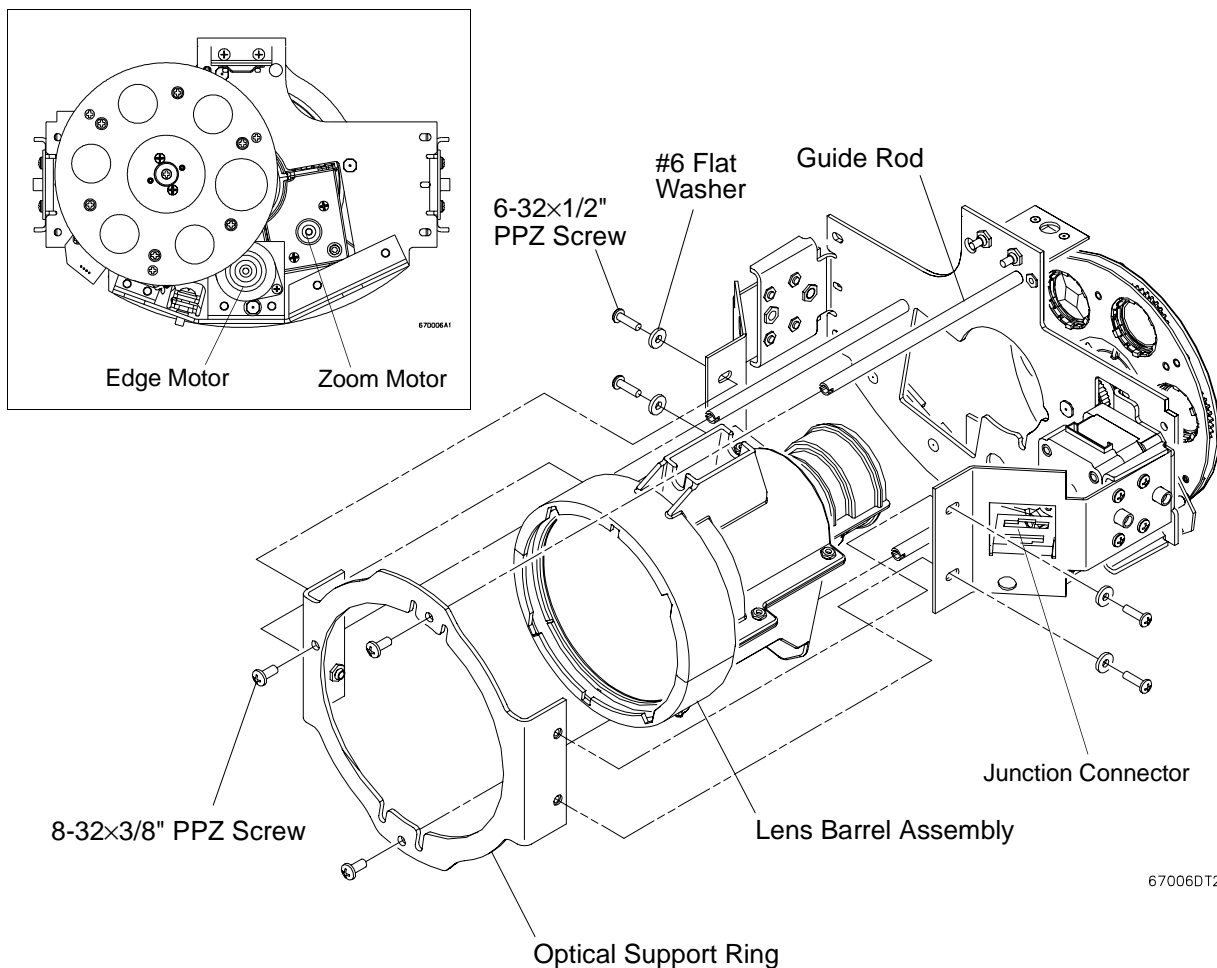

**Figure 4: Converting Fan Cover Assembly**
- Step 1. At fan cover assembly, remove baffle cover by removing two (remaining) 6-32x5/16" PPZ screws and #6 internal tooth lock washers (ground strap will come loose also). (**Figure 4**).